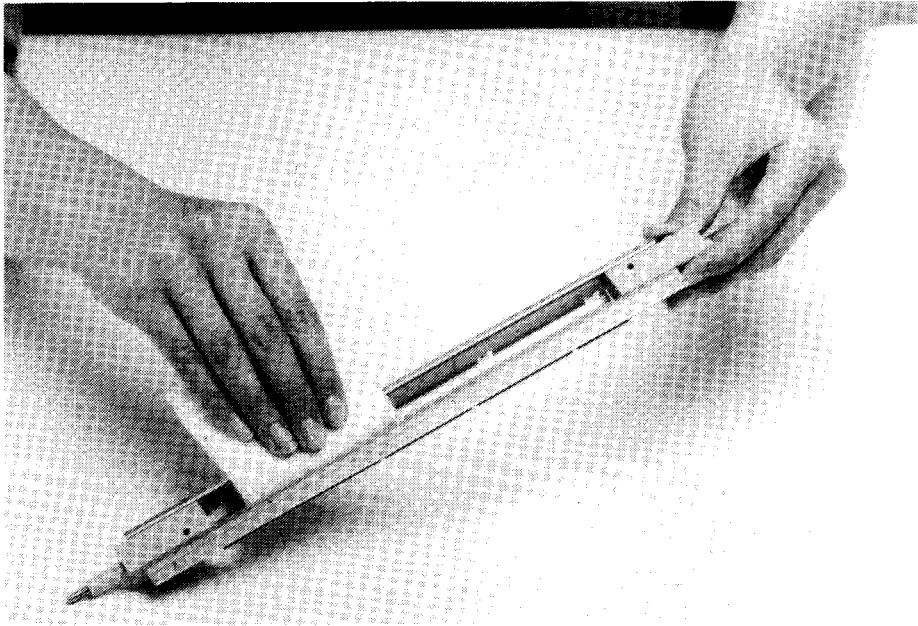

Figure 4-6. Cleaning Transfer Corona
- f. Wipe the transfer corona wire with a soft dry cloth (figure 4-6).